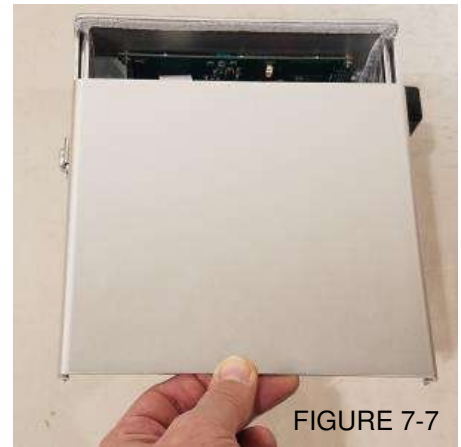

FIGURE 7-7
- 6) Remove the top cover by grasping the side of the instrument case with one hand while pulling the cover with the other hand away from the front panel as shown in fig. 7-7. Slide the cover until it is free from the side slots.